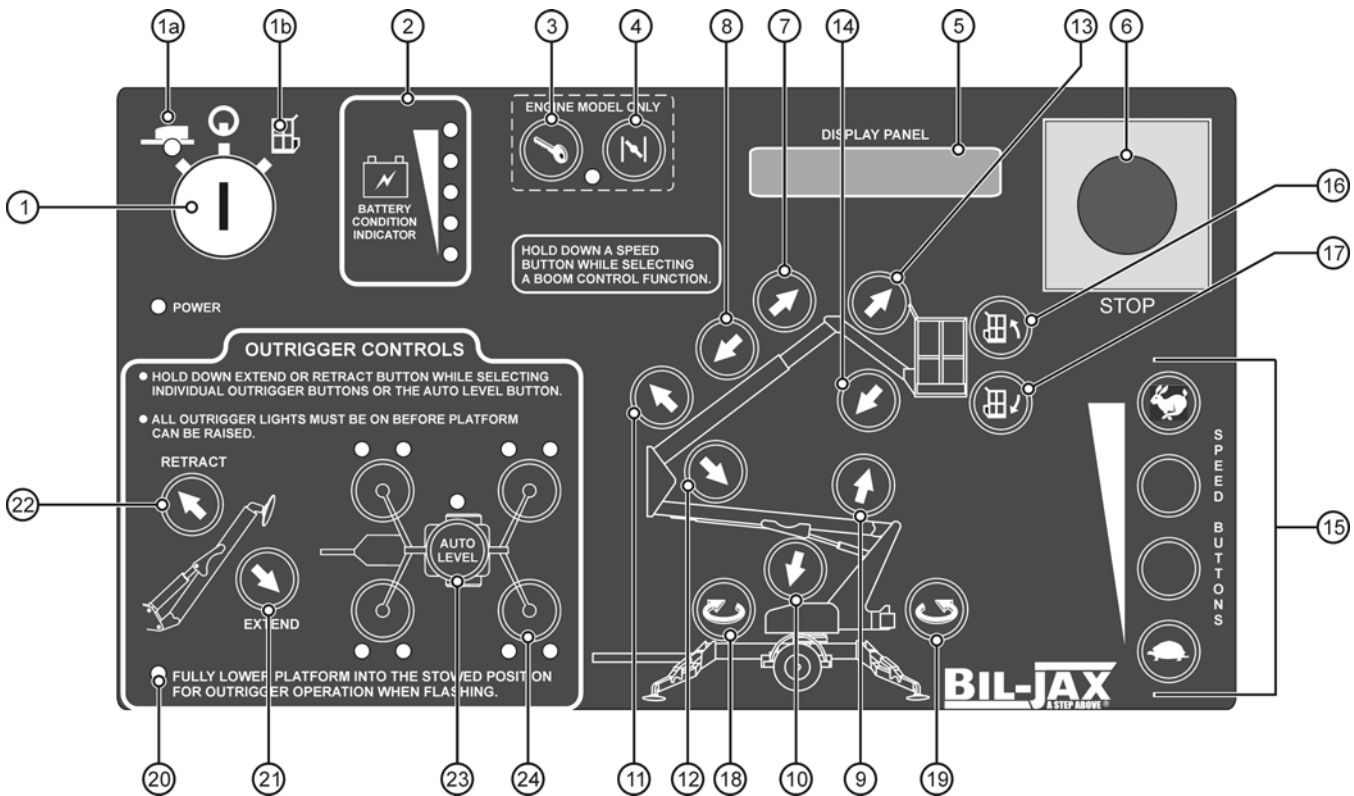
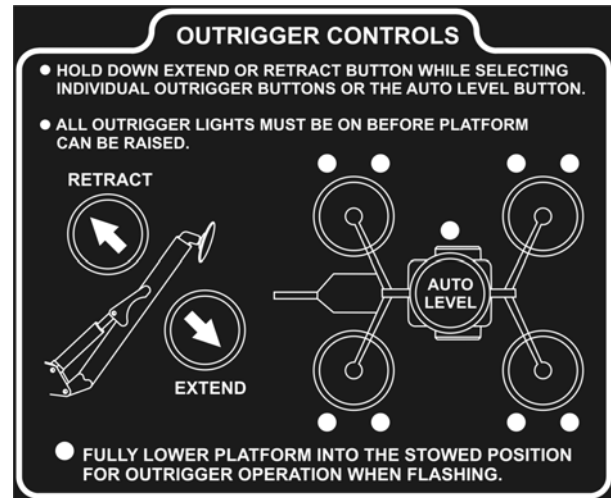

Figure 3-1. Ground Control Panel
Figure 3-3. Outrigger Controls
The ground control station includes the following controls and Indicators. Refer to Figure 3-1 for control locations.
- ❑ Verify that the control status indicator LED is lit. If the control status indicator LED is not lit or is flashing, the outrigger buttons will not work. A flashing control status LED indicates that one or more of the booms is raised and needs to be stowed. Refer to Figure 3-1 and Figure 3-3.